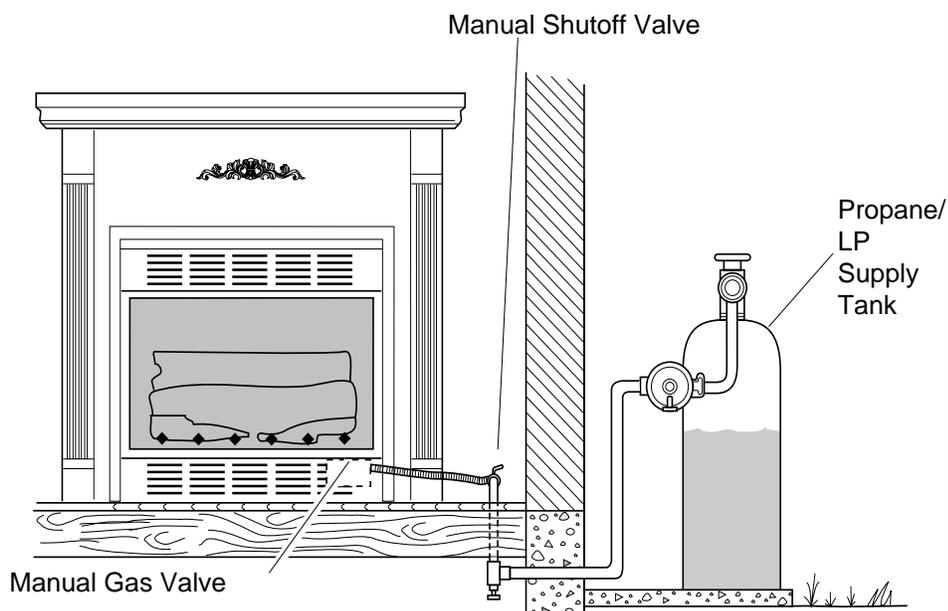

Figure 21 - Checking Gas Joints
3. Check all joints from propane/LP supply tank to manual shutoff valve (see Figure 21). Apply mixture of liquid soap and water to gas joints. Bubbles forming show a leak.
4. Check all joints from manual shutoff valve to thermostat gas valve (see Figure 21). Apply mixture of liquid soap and water to gas joints. Bubbles forming show a leak.